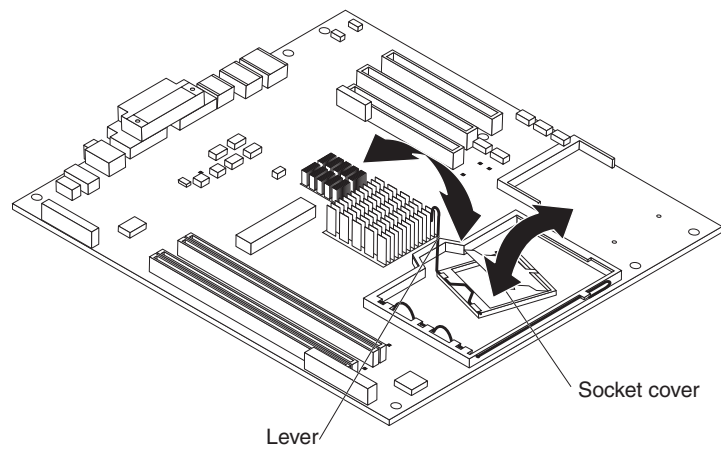

Figure 50. Closing the microprocessor socket
3. Close the microprocessor socket cover; then, close the microprocessor socket lever and lock it securely in place (see Figure 50).